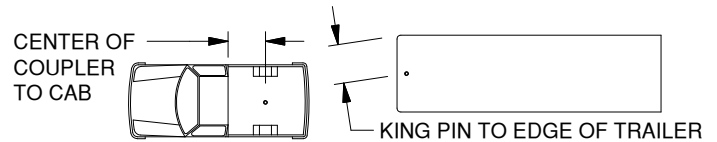

Figure A3: Truck and Trailer
- 2. Evaluate clearance.** Determine if there is clearance between each truck and trailer combination before towing. Measure from the center of the coupler to the cab of the truck and from the king pin or pivot point of the trailer to the furthest forward corner of the trailer, see Figure A3. Compare these measurements to ensure proper clearance when towing. Also, inspect the clearance between the bed sides and the underside of the front of the trailer to ensure there is room for the pitch and roll of the trailer while towing.